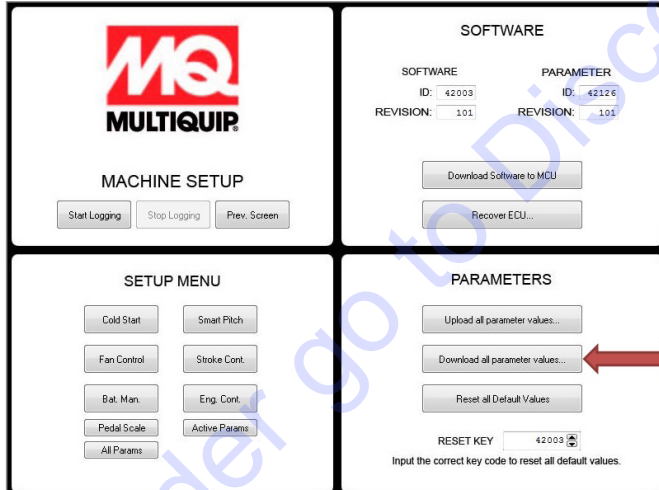

Figure 26. Download all Parameter Values Screen
3. Click "Download all parameter values" button (Figure 26).